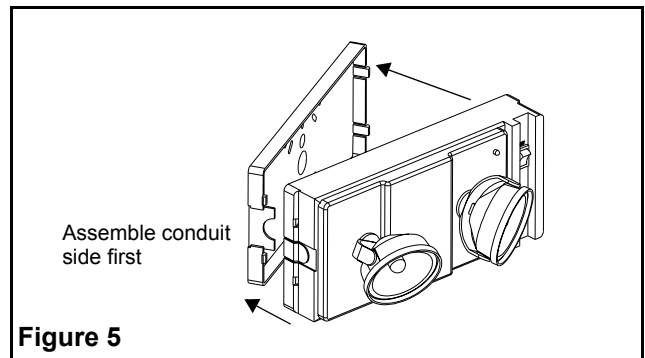

Figure 5
- 8. Slide the housing over the tabs; conduit side on housing over conduit side on backplate (see fig. 5). Assemble the conduit side first, then align the tabs on the other side of the housing and of the backplate. Press together until it snaps.